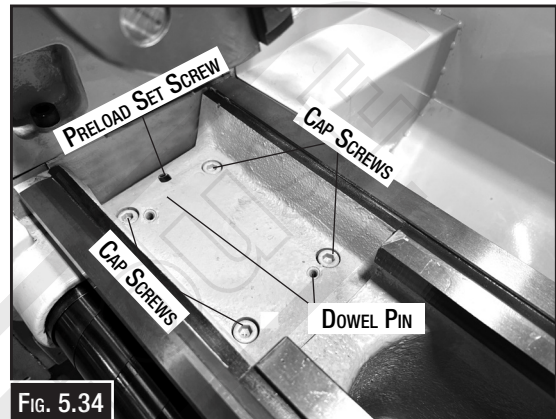

Fig. 5.34
2. Loosen the preload set screw a few turns until it no longer contacts the headstock (Fig. 5.34).